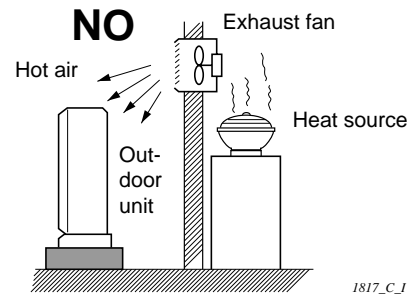

Fig. 2-2
- heat sources, exhaust fans, etc. (Fig. 2-2)